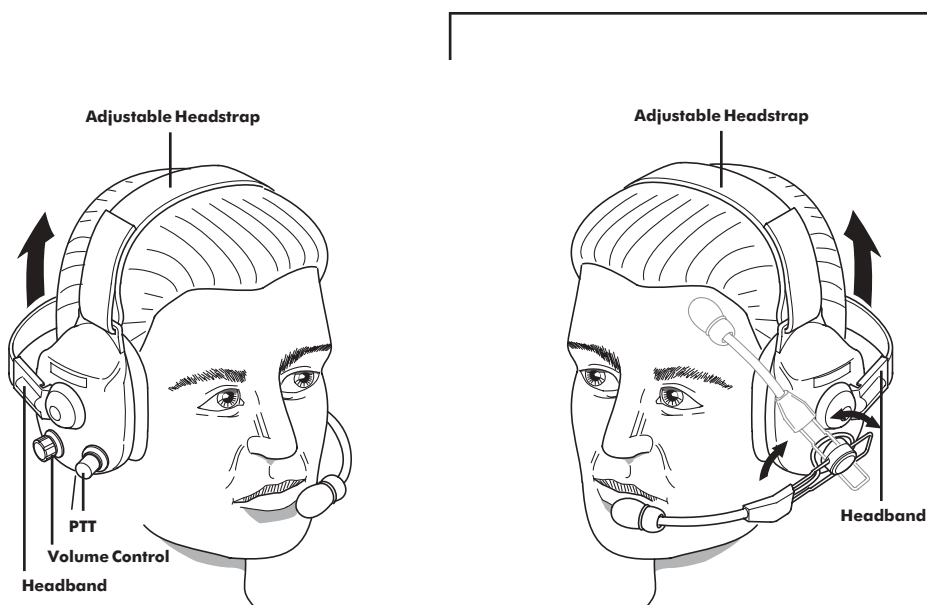

FIGURE 22:
Firecom offers many different styles of headsets for use with the 3010 Series Intercom System. Headsets are available in an Over-The-Head (Figure 21), or Under-The-Helmet (Figure 22) style. Either of these styles can be Radio-Transmit capable, or Intercom-Only.
- Under-The-Helmet (UH) style headsets (Figure 22): These headsets have an adjustable headstrap to adjust the height of the ear domes.
- Under-The-Helmet (UH) style headsets: Rotate the Mic Boom and the rear Headband ONLY in an upward direction (Figure 22), page 21.